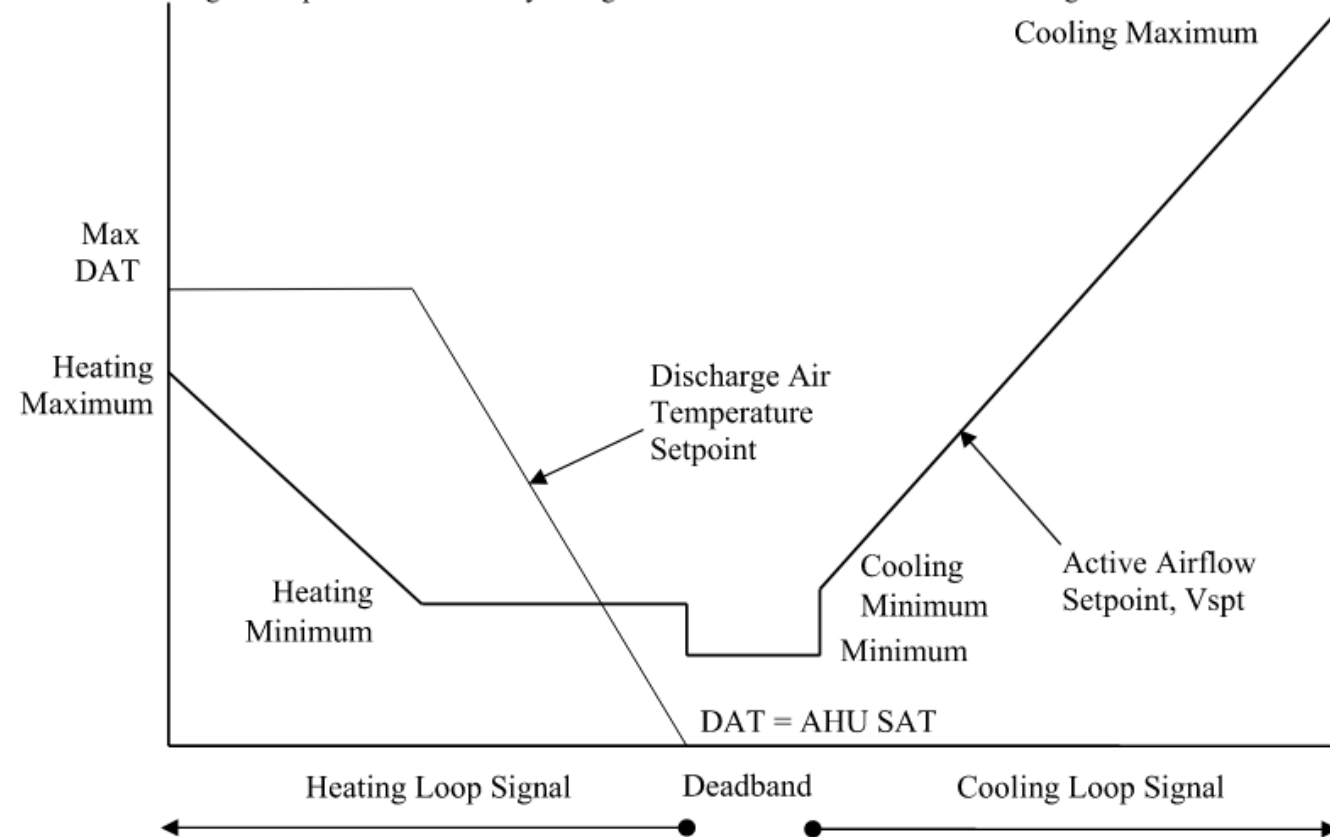

Figure 5.6.5 Control logic for VAV reheat zone.
5.6.5. Control logic is depicted schematically in Figure 5.6.5 and described in the following subsections.